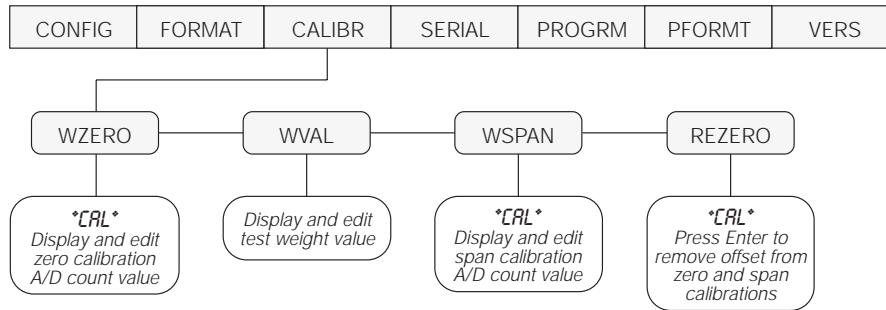

Figure 4-1. Calibration (CALIBR) Menu
2. Press \blacktriangleright until the display reads *CALIBR* (see Figure 4-1). Press \blacktriangledown to go to zero calibration (*WZERO*).